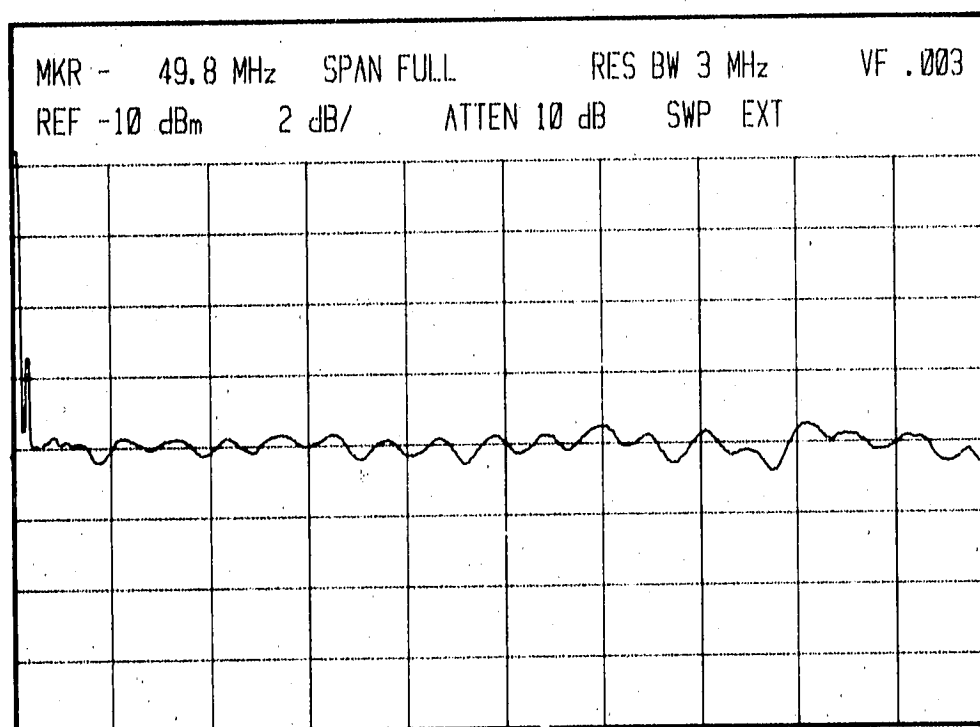

Figure 5-59. CRT Plot of Typical Frequency Response, .01 to 1.8 GHz
32. Adjust A20R14 B1A, A20R9 B1B, and A20R10 B1C to set best line at center horizontal graticule line, with minimum slope (see Figure 5-59). If frequency response is  $\geq 1.2$  dB, adjust A20R71 V1 and A20R112 PIN CURRENT to minimize amplitude variations.